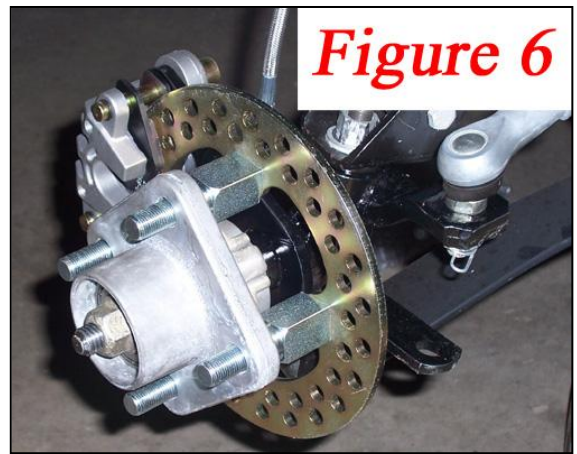

Figure 6
10. Mount stock hubs to rotors as shown in FIGURE 6. Cut off outer control arm bolt as shown in FIGURE 9.